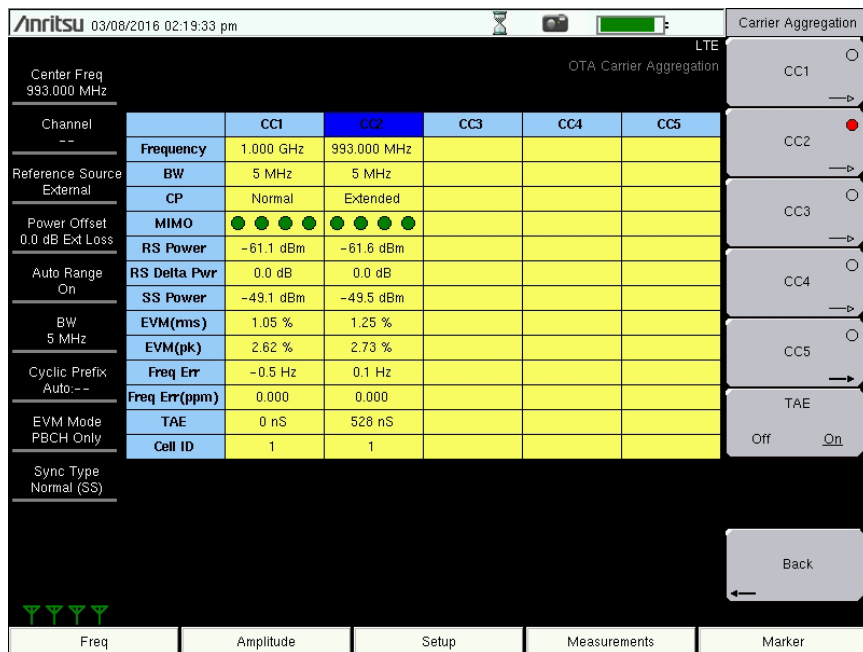

Figure 5-14. Over-the-Air Carrier Aggregation Measurement
The MIMO status indicators on the instrument screen show which transmitters are active. See Figure 5-14 on page 5-21. There are two icons in a 2x2 MIMO configuration, four icons if 4x4 MIMO signals are detected. Active transmitters display as green dots. Inactive transmitters are gray. They correspond to the antenna icons displayed at the bottom left of the screen for each Component Carrier scanned.
3. Press the **Carrier Aggregation** submenu key to display the OTA Carrier Aggregation table. Press the key again to display the Carrier Aggregation menu. See Figure 5-14.
4. Press one of the five **Component Carrier (CC)** submenu keys to set it up for measurement.
Note Figure 5-14 illustrates a 4x4 MIMO configuration. In 2x2 MIMO, there are two transmitter status indicator dots for each active Component Carrier. Refer to “Carrier Aggregation” on page 5-17 for a description of the measurement result values.